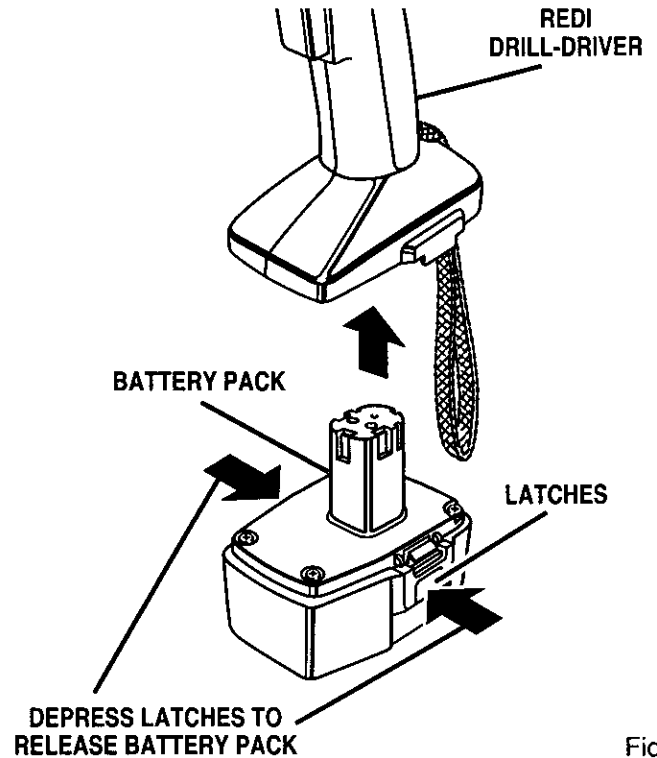

Fig. 4
- Place battery pack in your drill-driver. Align raised rib inside drill-driver with groove on battery pack. See Figure 4.
- Locate latches on end of battery pack and depress to release battery pack from your drill-driver. See Figure 4.